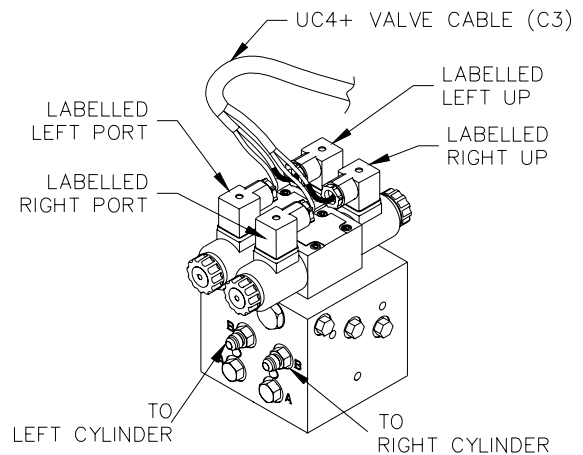

Figure 23 – Valve Cable Connections
13. As shown in Figure 23, the connectors on C03 are marked **RIGHT UP**, **LEFT UP**, **RIGHT PORT** and **LEFT PORT**. Cables labeled with **PORT** go on the side as the hydraulic hoses. Fasten with the included rubber seals and screws.